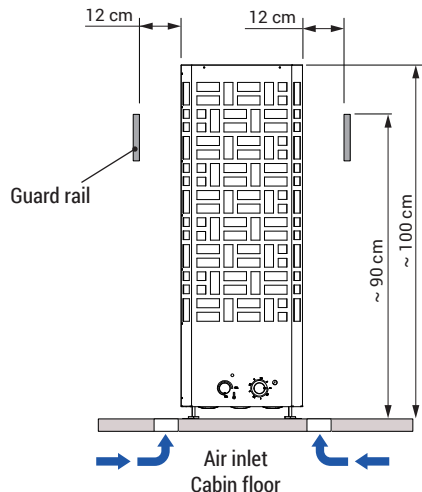

Fig. 3
- The height of the protective heater guard rail must approximately correspond to the height in Fig. 3.